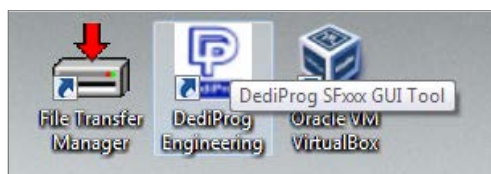

Figure 3-4. Launch the Dediprog application on the host system.
2. On the host system, to open the Dediprog application double-click the Dediprog icon on the desktop — see Figure 3-4. When the application opens, it should display either a screen of events or a Memory Type Ambiguity window. If you see the ambiguity window, there may be several SPI chips available from the manufacturer; however, only one chip from each manufacturer is supported by the Intel® DQ57TM UEFI 2.3.1 Development Kit.